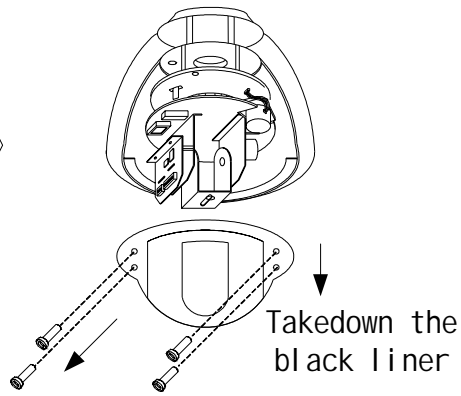

Figure 7
- 3) Take out the black liner. (Figure 7)